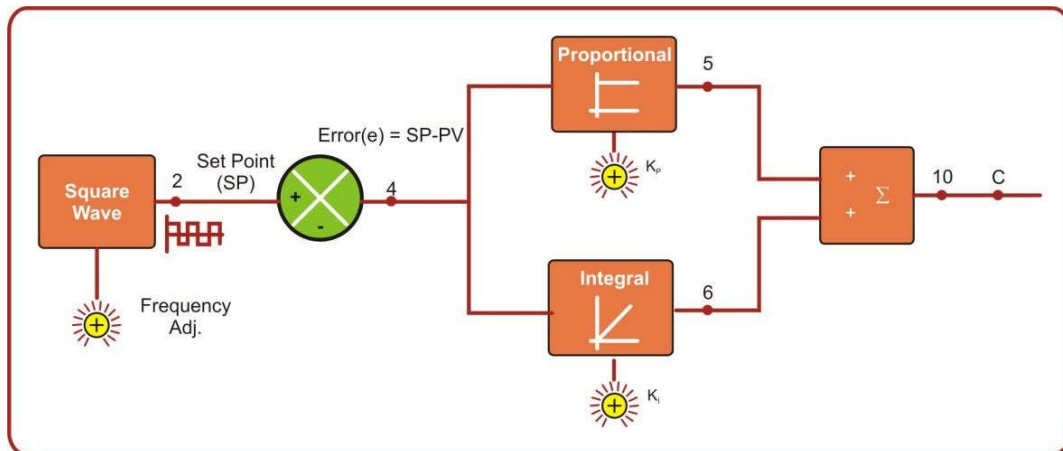
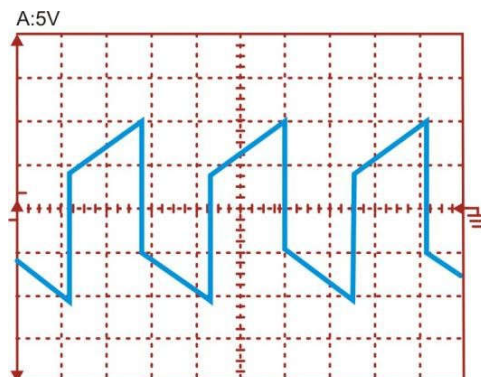

Figure 12
Figure 13
**Objective:** Study of Proportional + Integrator (PI)
Connections for Proportional + Integrator (PI) controller are as shown in the figure 12.
3. Apply square wave to the set point (SP).
4. Check the output of summer block  $\Sigma$  of summing block on CRO that will look like as shown in figure 13.